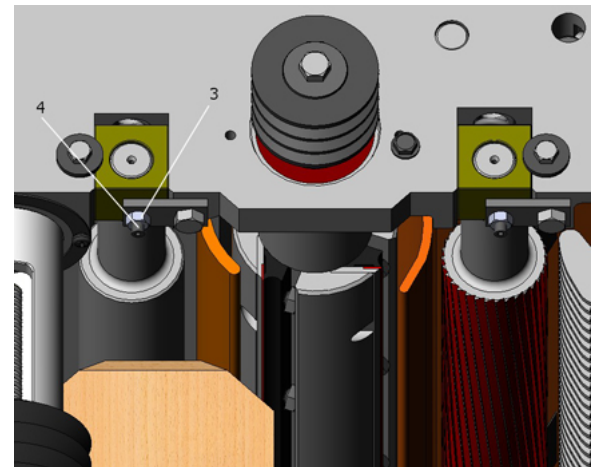

Fig. 24
1. Place gauge block under outfeed roller. (Fig. 24)
2. Loosen nut (3) and screw (4). This will allow for the outfeed roller to move upwards, or downwards.
4. When adjustments have been finished, tighten nut (3), and replace screw (4).